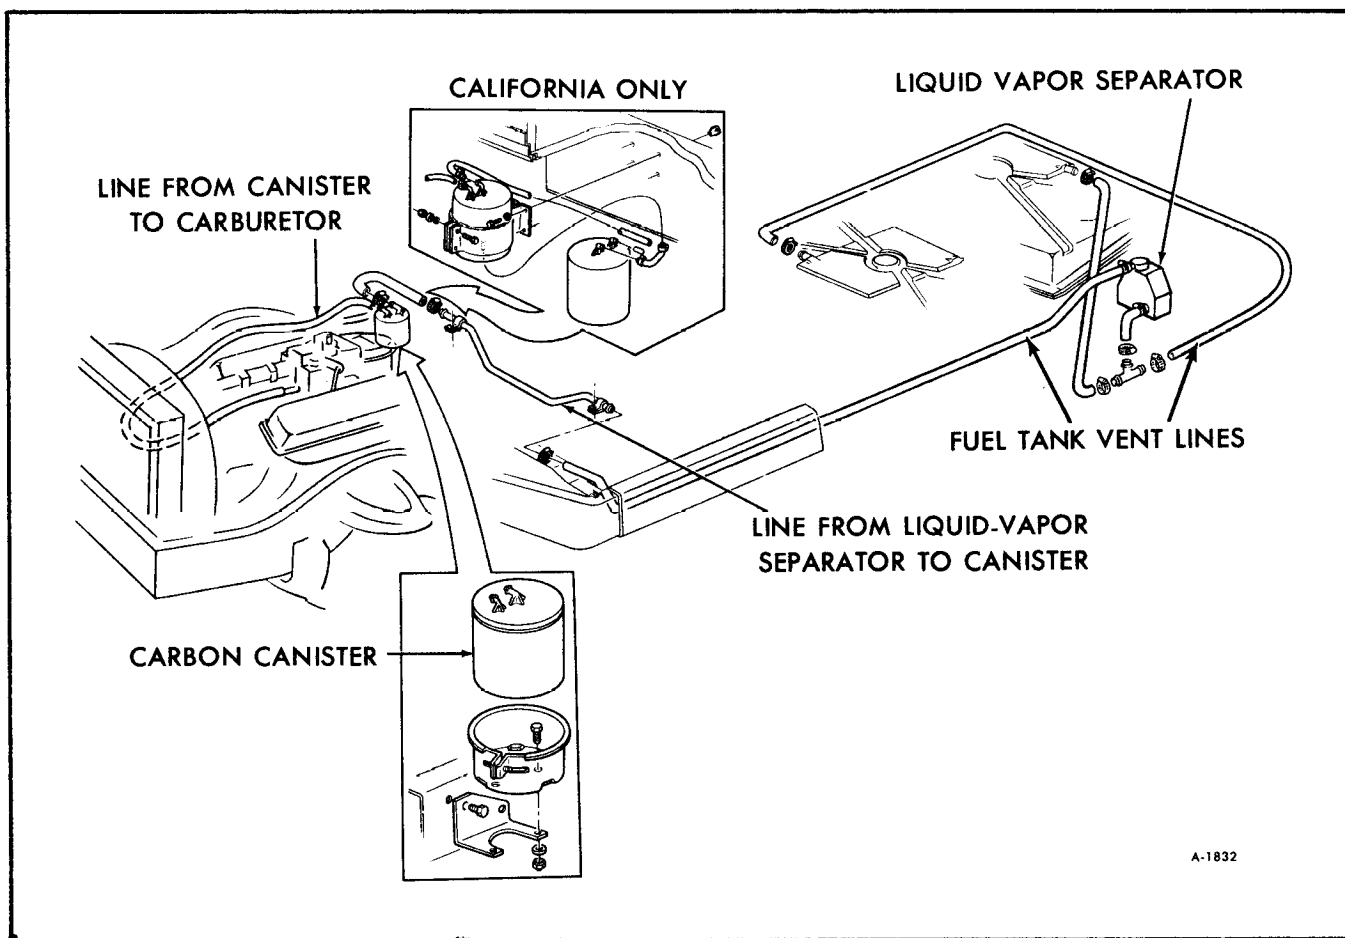

Figure 1-Evaporation Control System
In order to limit gasoline vapor discharge into the atmosphere, the following features are incorporated in the fuel system. The E.C.S. system (figure 1) is designed to trap fuel vapors which normally escape from the fuel tank. Vapor arrest is accomplished through the use of a charcoal canister(s) which absorbs the fuel vapors and stores them until they can be removed to be burned in the engine. Removal of vapors from the canister(s) to the engine is accomplished by a calibrated purge orifice in the carburetor. In addition to the carburetor modifications and the canister(s), the fuel tank requires a special
3. If vehicle is equipped with two canisters remove the lower canister clamp from bracket and slide canister and clamp out. See Figure 1.